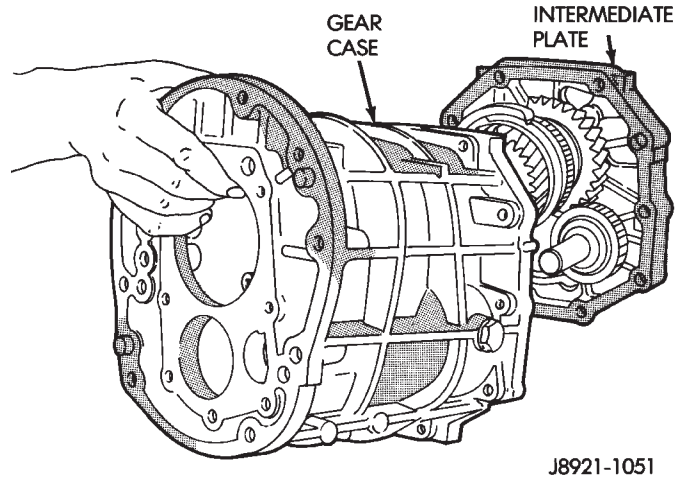

Fig. 34 Install Transmission Gear Case to the Intermediate Plate
(3) Align geartrain and shift rails with mating holes in transmission case and install transmission case to the intermediate plate (Fig. 34). Verify that the transmission case is seated on the intermediate plate locating pins.